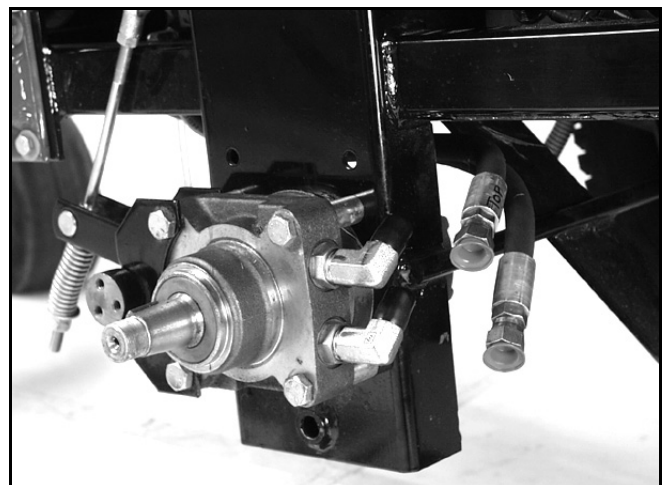

Figure 69
7. Clean any dirt and debris away from the hydraulic line fittings. Then, remove the hydraulic hoses from the fittings and cap the fittings and hoses to prevent dirt from entering the hydraulic system (Figure 69).